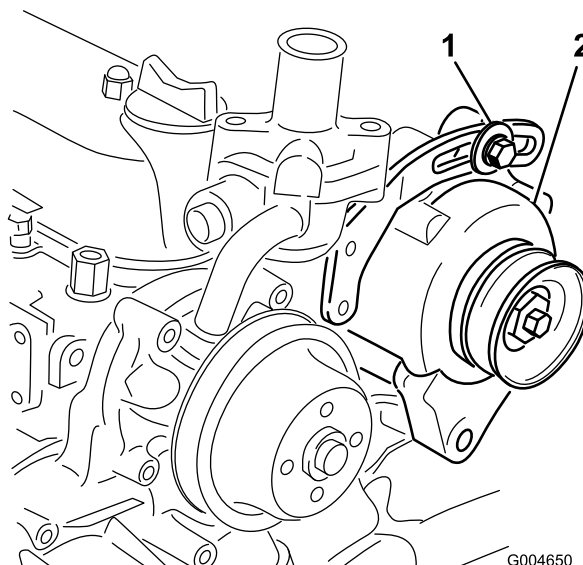

Figure 38
2. If the deflection is not 10 mm (3/8 inch), loosen the alternator mounting bolts (Figure 38).